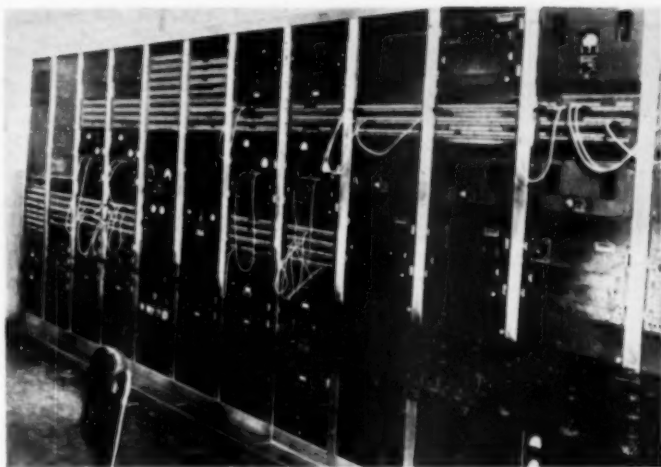

Fig. 3. Typical motion picture sound recording installation at Republic Studios.
It is of course recognized that a cascade type grid bias limiter is capable of nearly complete AM suppression; but two additional tubes are necessary and this type of circuit is relatively expensive. A comparative set of curves for one diode, two diodes, and a cascade limiter is shown in Fig. 3. The single and double diode curves are variable threshold devices that show AM reduction factors ranging from 6 to 10 db better than the cascade limiter for signal levels below the threshold of the cascade type limiter.
Fig. 3. Comparison of single and double diodes with cascade type grid bias limiter. (A) Single diode dynamic limiter (1N56). (B) Double diode dynamic limiter (2-1N56's) and (C) Cascade limiter using 2-45J7 tubes.
Fig. 3 is a typical motion picture sound recording installation at the Republic Studios in Hollywood, California. The equipment pictured is used